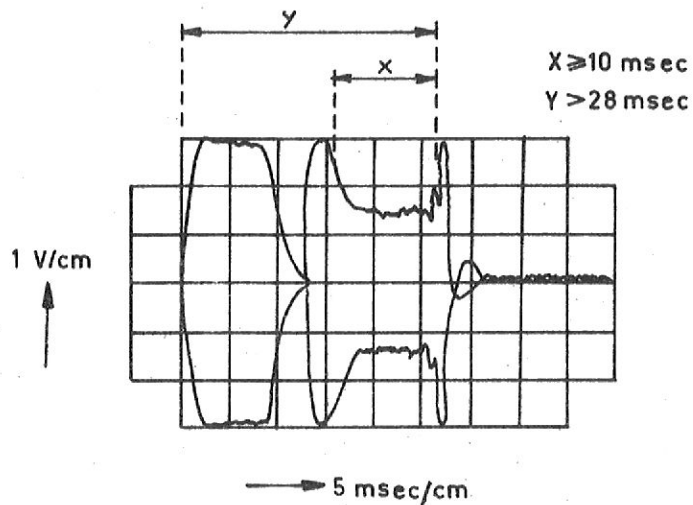

Figure 7-7
- 9) Turn potmeter SE3 CW (speed is increased) till the current is correct, see fig. 7-7 with due regard to on point 11.